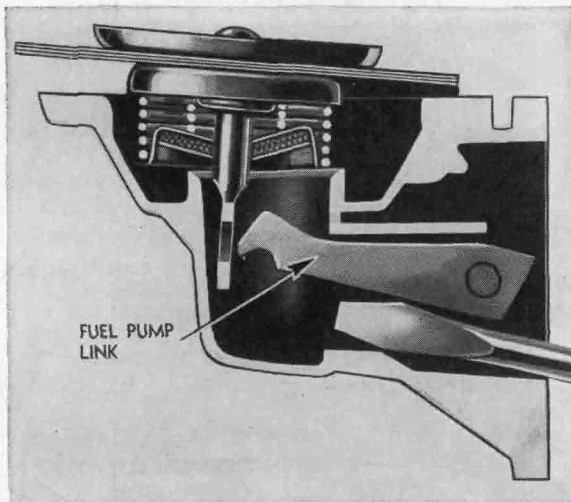

FIG. 9-15. Hooking fuel-pump link to diaphragm stem with screw driver. (Chevrolet Motor Division of General Motors Corporation)
9. Raise the rocker-arm link with a screw driver as shown in Fig. 9-15, and, with the diaphragm spring in place, hook the link into the diaphragm stem. Then slide the diaphragm and seal assembly over until the seal drops down over the boss on the body.